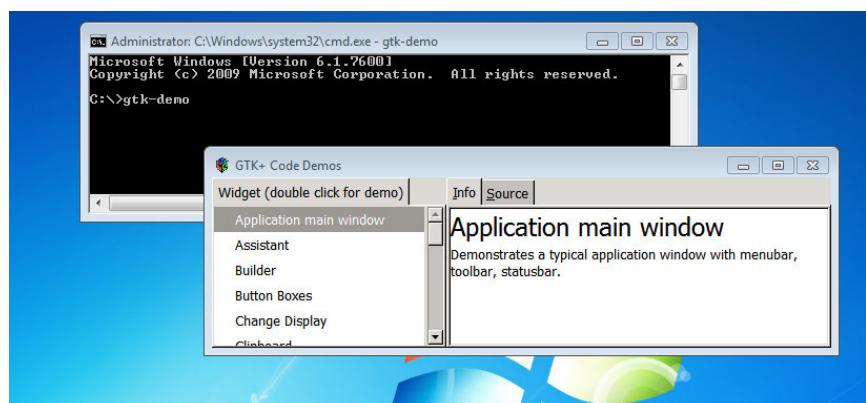

Figure 5-21. Testing the gtk-demo program
4. Test the installation. Open a command prompt (Start→All Programs→Accessories→Command Prompt). Type *gtk-demo* and press Enter (Figure 5-21).